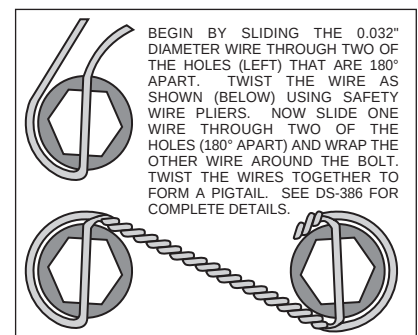

Figure 3. Safety Wire Diagram
- Identify the left and right caliper mounting brackets (1). Both brackets will be offset to the rear of the vehicle with the threaded inserts and the beveled bolt holes facing the outside of the vehicle. Apply red *Loctite*® 271 to bolt threads (2 and 5) before assembly of the caliper bracket (1) to dust face plate of spindle. Insert the two upper mounting bolts (2) and the lower mounting bolt (5) through the caliper mounting bracket (1). Install two lock nuts (4) on the upper mounting bolts (2) and finger tighten. Install one washer (6) and one nut (7) on the lower mounting bolt (5) and finger tighten. Torque two bolts (2) to 47 ft-lb. Torque bolt (5) and (3) to 77 ft-lb. **NOTE:** Be sure the heads of the caliper bracket (1) insert nuts are facing outward toward the wheel.
- Install five new wheel studs (8) into the hub (9). Torque to 77 ft-lb. **NOTE:** There are two five lug patterns in the hub (5 x 4.00 and 5 x 4.50). Make sure of the correct hole pattern for the correct wheel application before installing studs into hub.
- Pack the large inner bearing cone (10) with high temperature disc brake bearing grease (available from your local auto parts store) and install into the backside of the hub (9). Install the grease seal (11) by pressing into the backside of the hub (9).
- Attach rotor adapter (12) to rotor (13) using six bolts (14). Using an alternating sequence, apply red *Loctite*® 271 to the threads and torque bolts to 25 ft-lb. For an added measure of security, the bolts may be safety wired using standard 0.032 inch diameter stainless steel safety wire as shown in Figure 3. Please refer to Wilwood's data sheet DS-386 (available at www.wilwood.com/Pdf/DataSheets/ds386.pdf) for complete safety wire installation instructions. **NOTE:** The flat side of the rotor (13) lugs face toward the rotor adapter (12) with the dished side of the rotor adapter (12) facing away from the rotor (13).